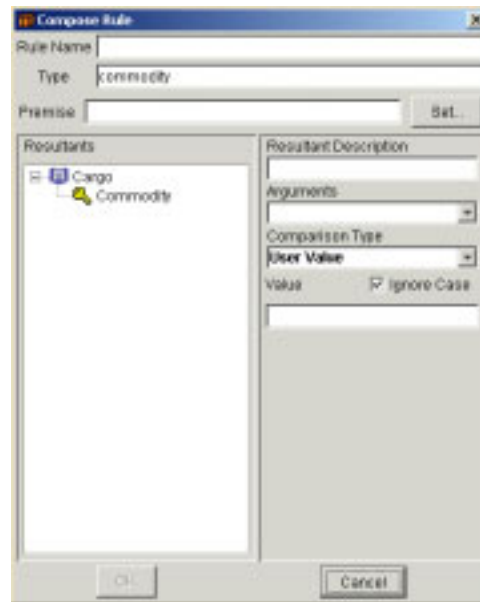

Figure 5.116 Compose Rule Window
- Click the  (Add) button at the bottom of the window. The Compose Rule window opens (Figure 5.116).